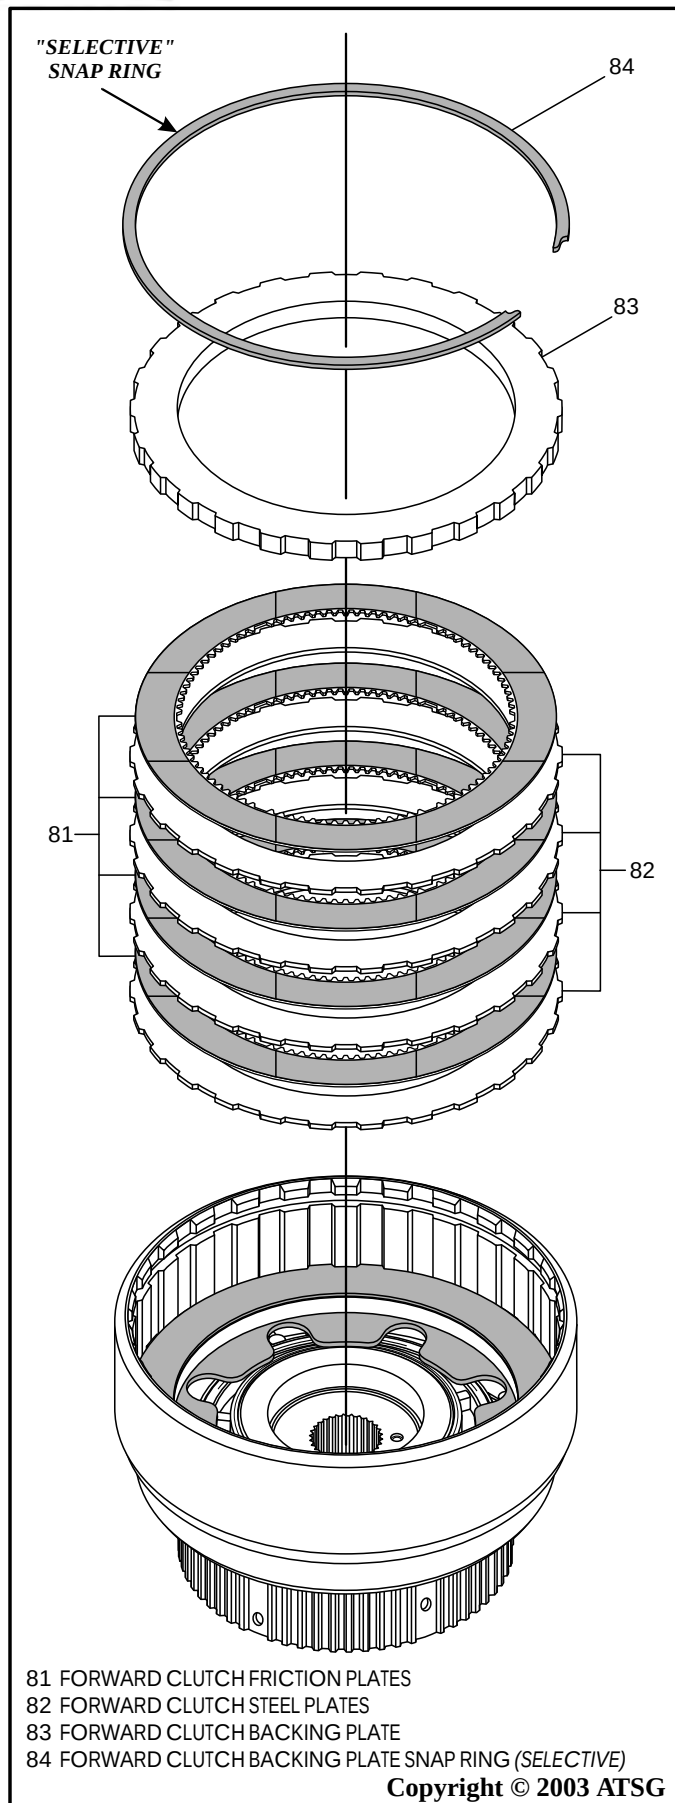

Figure 107
14. Install forward clutch pack beginning with a steel plate and alternating with a friction plate, as shown in Figure 107, until the proper amount of plates are installed.
15. Install the forward clutch backing plate, as shown in Figure 107.
16. Install **selective** forward clutch backing plate snap ring, as shown in Figure 107, and ensure that it is fully seated.